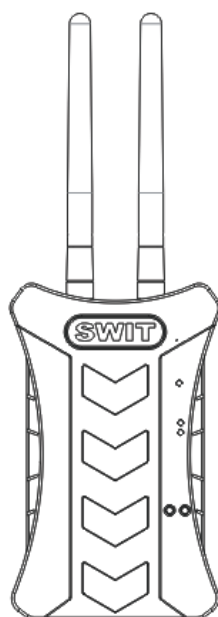

Fig. 4
- (1) Put the antenna on both transmitter and receiver vertically straight up, no request to spread. If lay down installation, still keep the antenna vertically straight up to extend transmission distance and stabilize transmission quality. (See Fig. 4 and Fig. 5)